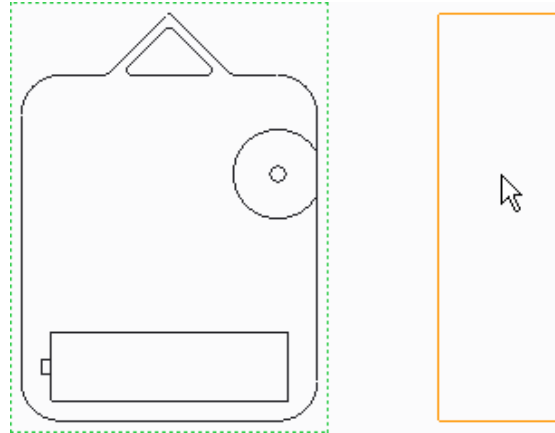

Figure 5: Looking for a position for projection view.
2. Try surfing around the board with your mouse. You can select the projection direction and position. Click on a suitable position (Figure 5).